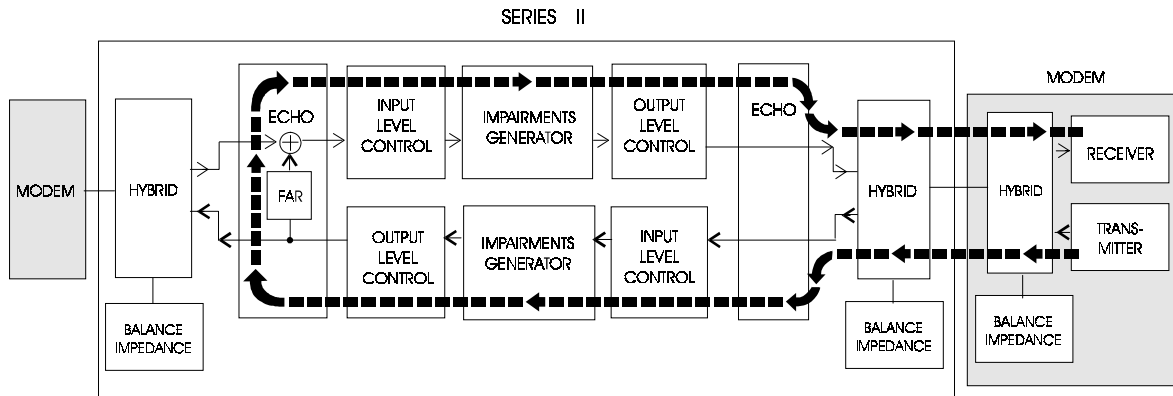

Figure 2-32. Far Talker Echo
The Series II provides far end talker echo simulation for station A and station B. Station B (A) far talker echo is illustrated in Figure 2-32 and is the reflection of the modem B (A) transmit signal that occurs at the station A (B) hybrid (far end) of the Series II. The magnitude of this reflection is determined by the transhybrid loss of the station A (B) hybrid. The station B (A) far echo attenuator magnitude is equal to the transhybrid loss of the Series II hybrid A (B), if the hybrid is balanced.